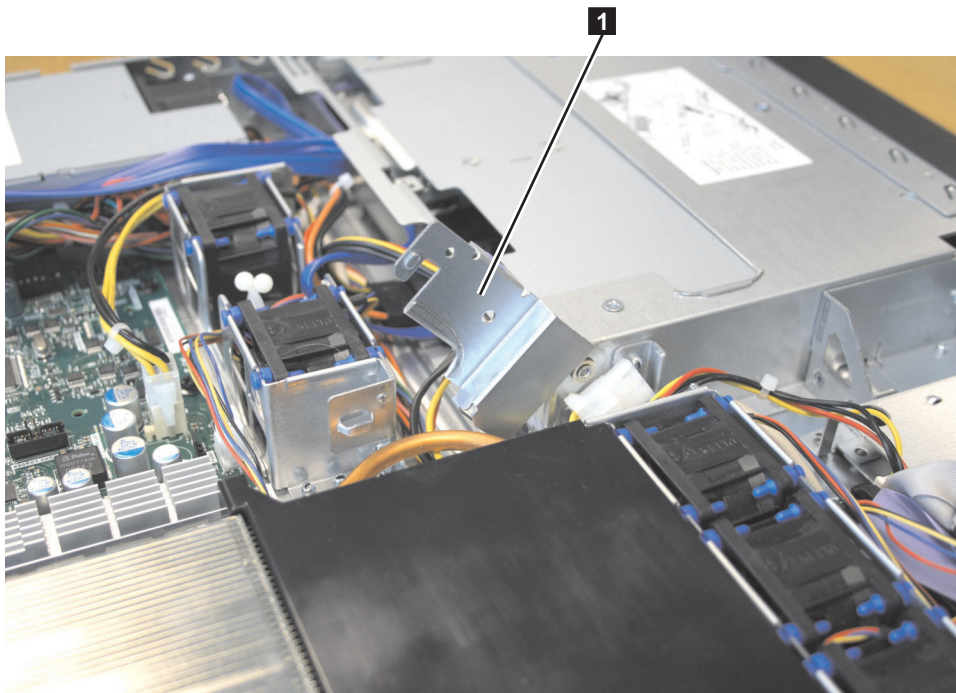

Figure 126. Air deflector for the SAN Volume Controller 2145-8A4 power supply
1. Make sure that the air deflector **1**, which is shown in Figure 126, is in the open position.
5. Rotate the air deflector ( **1** in Figure 126 on page 138) into place, making sure not to pinch any cables beneath it, and press it down firmly.